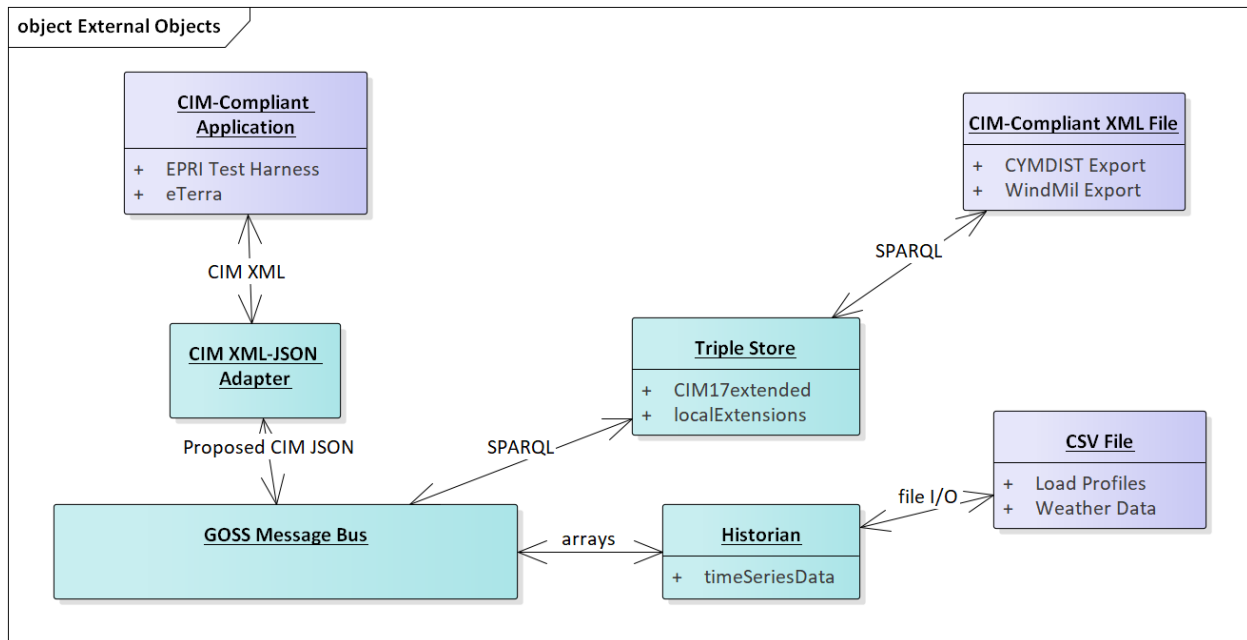

Figure 8: External Objects
8. The catalog data mechanism in Figure 8 required two new tables, one for polymorphic associations and another for many-to-many joins:
- b. **AssetInfoJoin**, which references AssetInfo and PowerSystemResource. This table actually supplants the Asset class in Figure 8.